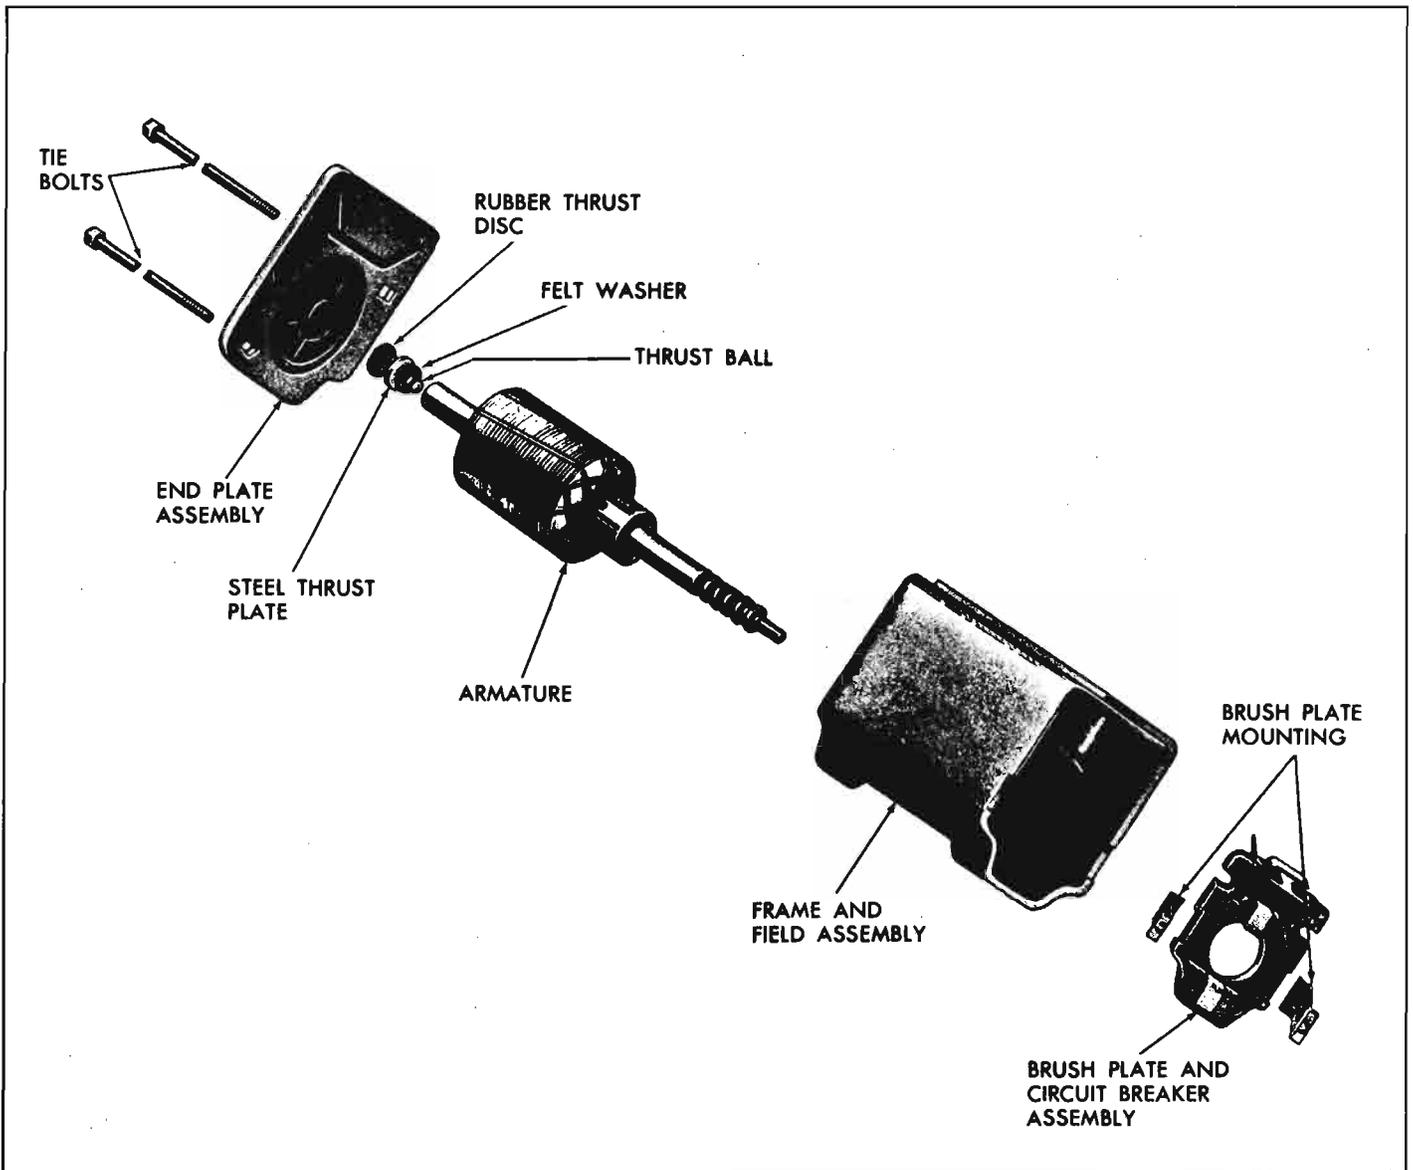

Fig. 8-129—Wiper Motor—Exploded View
Motor (fig. 8-129)
6. Remove end plate assembly (fig. 8-129) and pull armature out of motor frame.
Refer to Figure 8-129
1. If removed, install rubber thrust disc (fig. 8-129), steel thrust plate, felt washer, and thrust ball in end plate assembly.